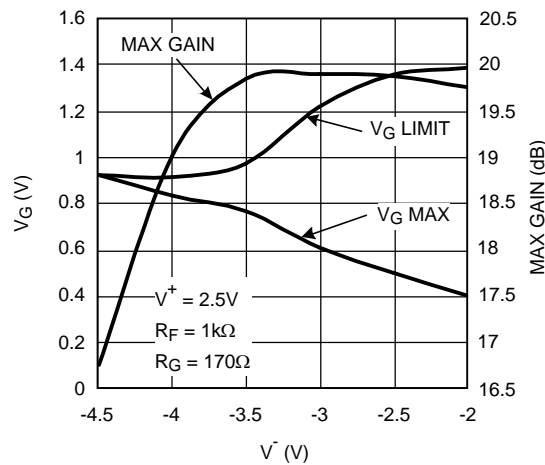
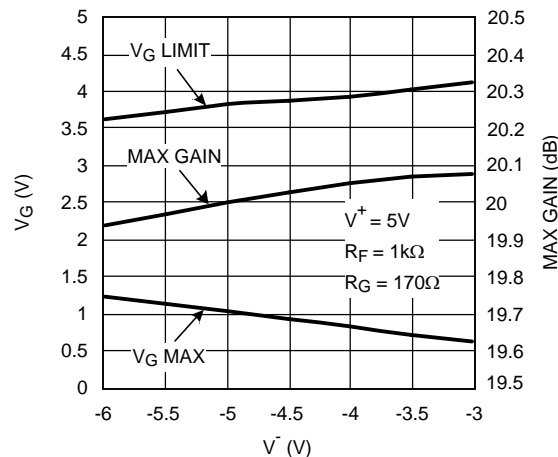

Figure 67. V_{G_MAX} , V_{G_LIMIT} , & Max-gain vs. V^- ($V^+ = 2.5V$)
Figure 68. V_{G_MAX} , V_{G_LIMIT} , & Max-gain vs. V^- ($V^+ = 5V$)
- a) V_G range constricts. Referring to Figure 67, note that V_{G_MAX} (V_G voltage required to get maximum gain) is 0.5V ($V_S = \pm 2.5V$) compared to 1.0V for $V_S = \pm 5V$. At the same time, gain cut-off (V_{G_MIN}) would shift to -0.5V from -1V with $V_S = \pm 5V$.
- b) V_{G_LIMIT} (maximum permissible voltage on V_G) is reduced. This is due to limitations within the device arising from transistor headroom. Beyond this limit, device performance will be affected (non-destructive). Referring to Figure 67, note that with $V^+ = 2.5V$, and $V^- = -4V$, V_{G_LIMIT} is approaching V_{G_MAX} and already "Max gain" is reduced by 1dB. This means that operating under these conditions has reduced the maximum permissible voltage on V_G to a level below what is needed to get Max gain. If supply voltages are asymmetrical, reference Figure 67 and Figure 68 plots to make sure the region of operation is not overly restricted by the "pinching" of V_{G_LIMIT} , and V_{G_MAX} curves.
- c) "Max_gain" reduces. There is an intrinsic reduction in max gain when the total supply voltage is reduced (see Figure 43). In addition, there is the more drastic mechanism described in "b" above and shown in Figure 67.
Similar plots for $V^+ = 5V$ operation are shown in Figure 68 for comparison and reference.